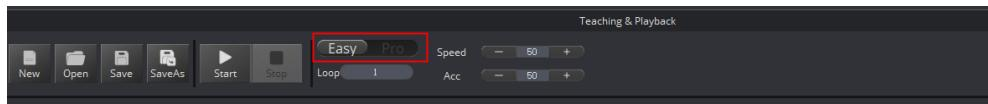

Figure 5.178 Switch advanced function
**Step 1** Click  icon on the **Teaching&Playback** page, as shown in Figure 5.178.